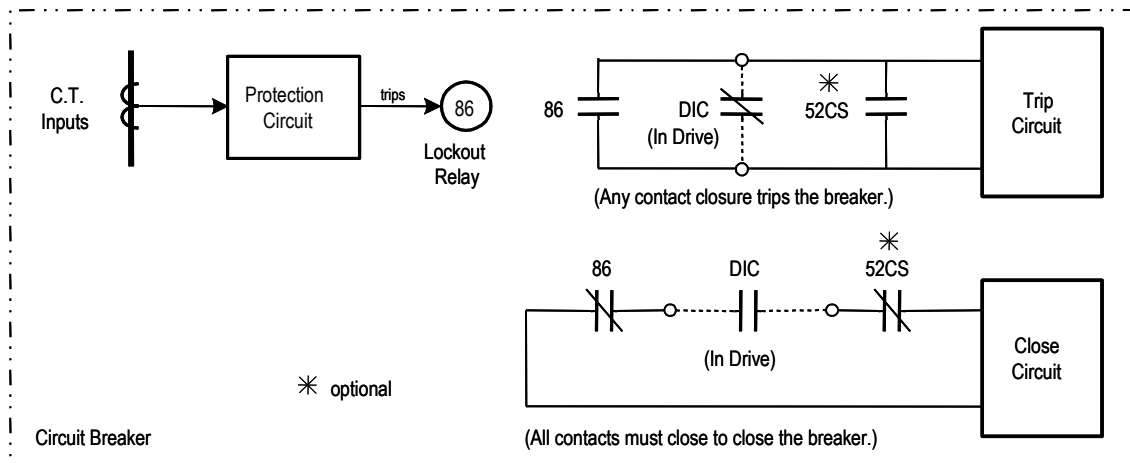

Figure 3 – Simplified Breaker Schematic for the Trip and Close Circuits
Figure 3 shows the recommended way of interfacing a Rockwell Automation medium voltage AC drive to the circuit breaker. The Drive Input Control (DIC) relay contacts from the drive will be connected to the input breaker to give the drive control over the closing and tripping of the breaker. This is required for the protection of the drive/motor under fault conditions. The concept is an 'OR' operation to trip the breaker and an 'AND' operation to close the breaker.
- a) **86 Contact:** The use of an 86 Lockout Relay as shown in Figure 3 is required.
- b) **52CS Control Switch Contact:** Sometimes the circuit breaker will have a manually operated rotary control switch on the front of the breaker. There is a Trip and a Close position. This switch is not required for drive operation but may be requested by the user. It is sometimes designated '52CS'. The control switch is to be wired as shown in Figure 3. Similar to the 86 lockout contact, it can trip the breaker independent of the drive control but it cannot close the breaker unless the drive contact is closed. This scheme is necessary and must be followed for drive protection. Actually, 52CS should be closed before the drive requests the breaker to close or the drive may interpret this as a loss of input control and announce an alarm. If a control switch is not used on the circuit breaker, it is recommended that terminal blocks be provided in the Close, Trip and Status circuits to make possible future field installation easier.
There may be cases when the preferred configurations of Figures 3 & 4 do not give the required 2 cycle advanced warning of the main power poles opening. There may be other cases when the circuit breaker is existing and must be modified in the field or the circuit breaker manufacturer does not wish to alter his standard design the way that we have shown. In these cases, one of the variations shown in Figure 5 may provide the solution. The examples shown in Figure 5 are for the 86 lockout relay but they can also be adapted to the 52CS control switch if there is a timing issue with the switch. Whatever solution is used must fit the requirement that the drive **must** receive a status line from the breaker that opens a minimum of 2 cycles before the main power poles of the circuit breaker start to open.